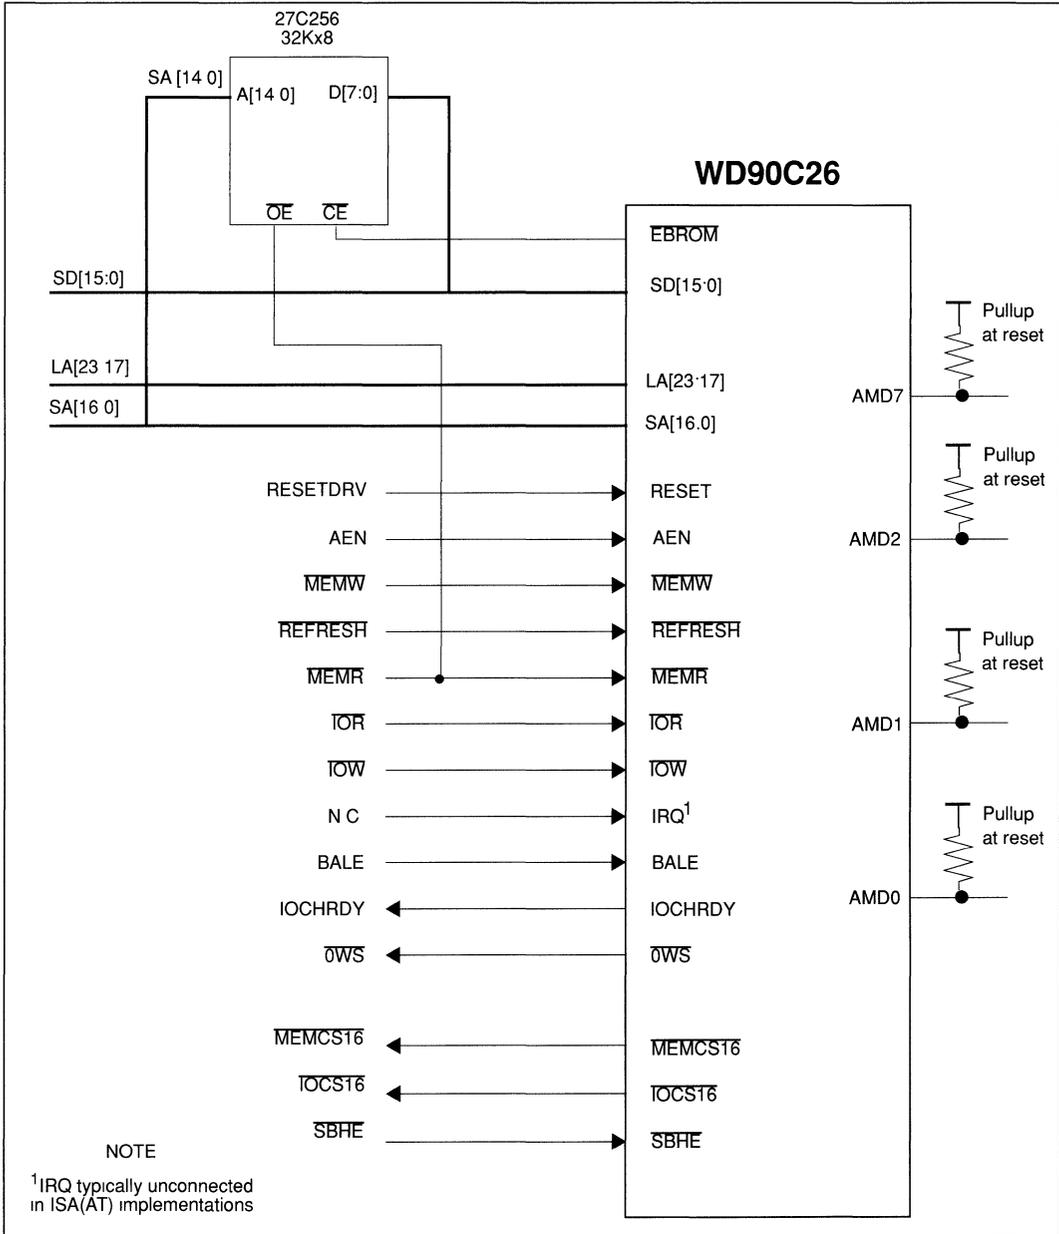

FIGURE 6-6 16-BIT ISA BUS (AT) INTERFACE
- 16-Bit ISA Bus (AT) Interface with 8-Bit BIOS, Figure 6-6.
Figure 6-6 shows a typical 16-bit ISA Bus (AT) interface.